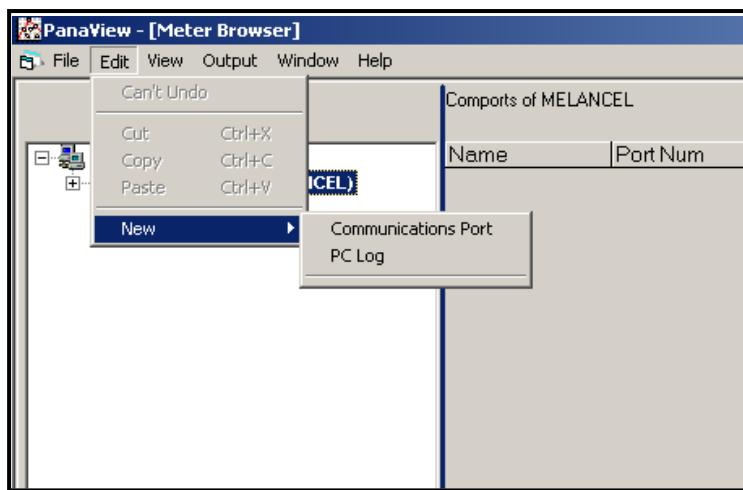

Figure 18: The Edit Menu
3. Click on the “New” menu option to select it, and a submenu opens with two choices on it (see Figure 18).